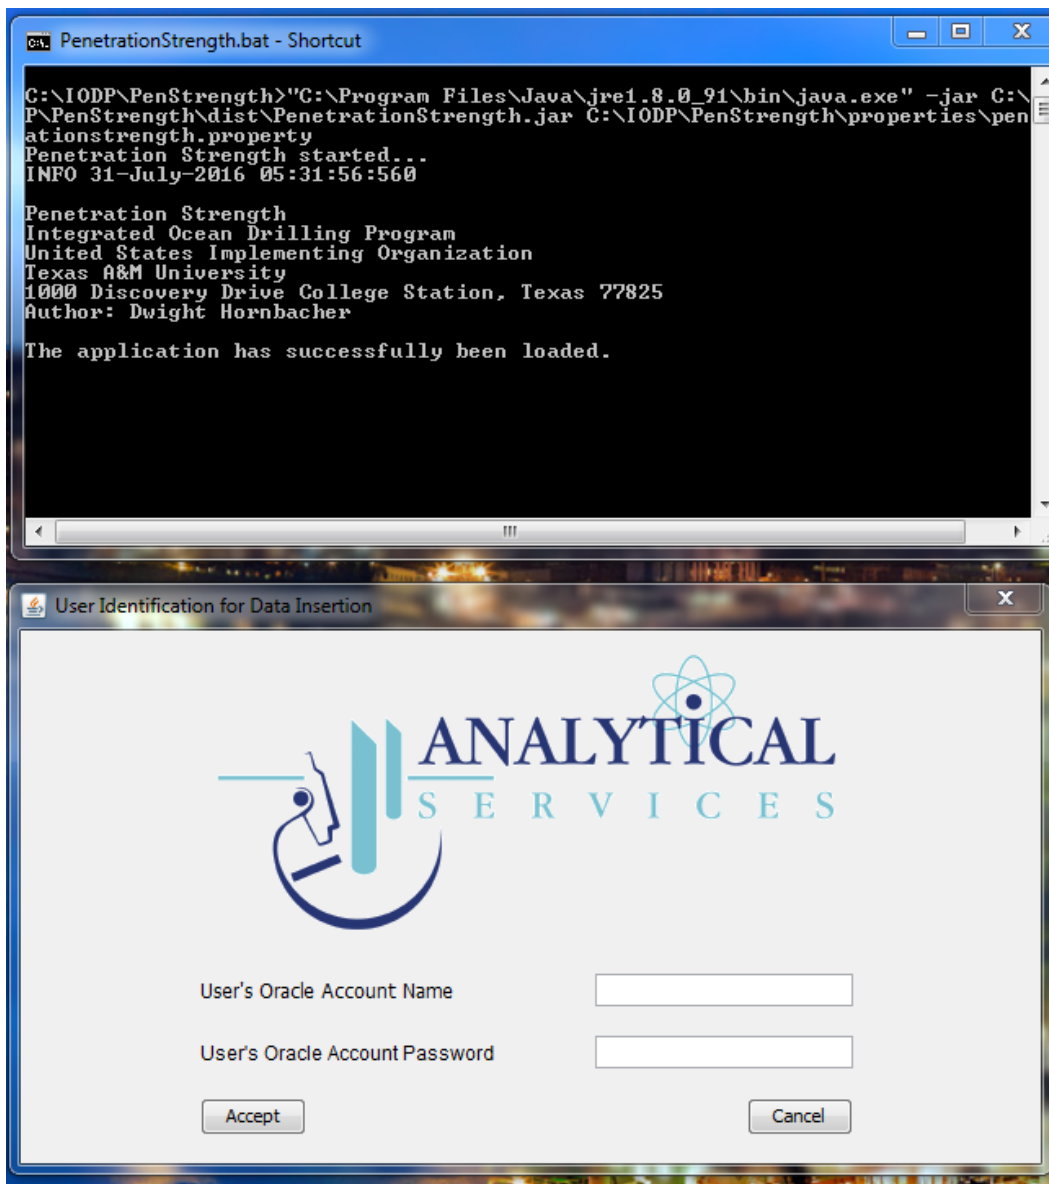
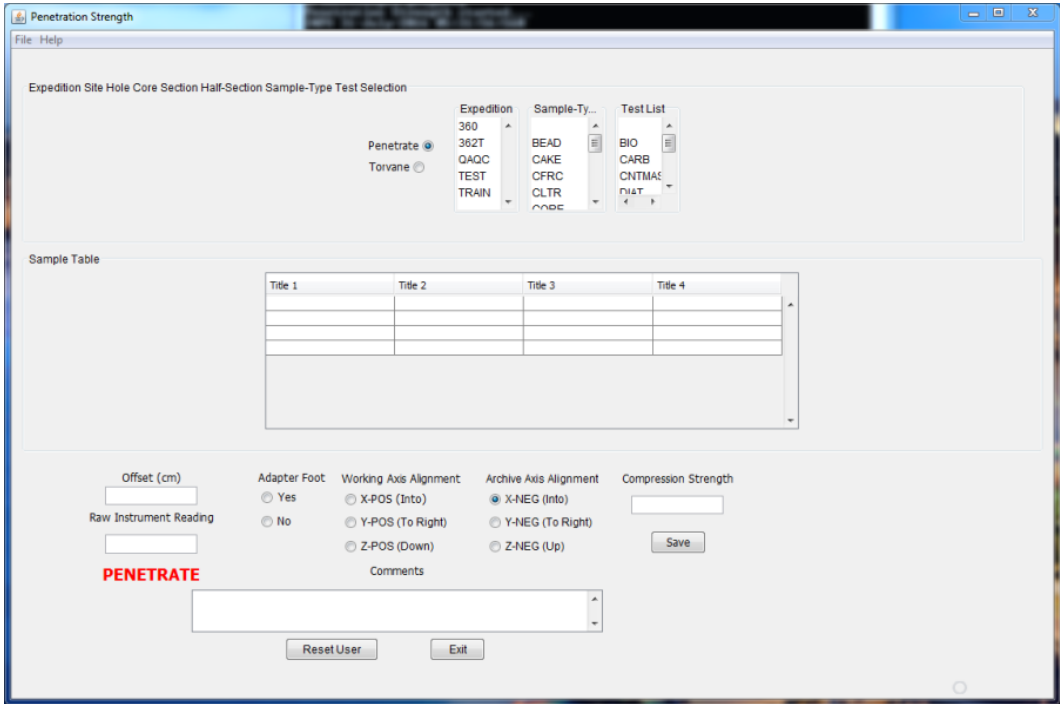

Figure 18. Logging in to the Application/LIMS Database.
Figure 19. Control Screen for Entering Results and Uploading to LIMS.
1. Log into the application with your LIMS username/password (*Figure 18*) to open the main application window (*Figure 19*).